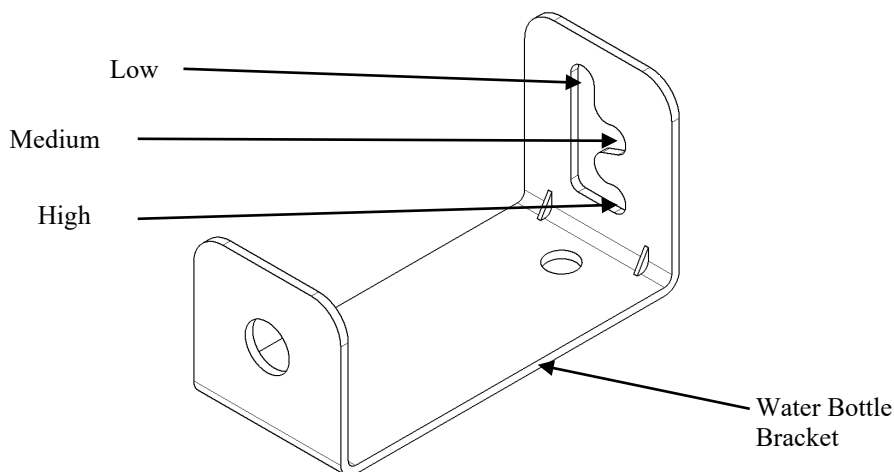

Figure 5 – Adjustable Water Level Positions
2. Move the water bottle brackets to the desired position to obtain the desired water level in the brush tank, light weight tapes would typically be set at the low position, Figure 5.